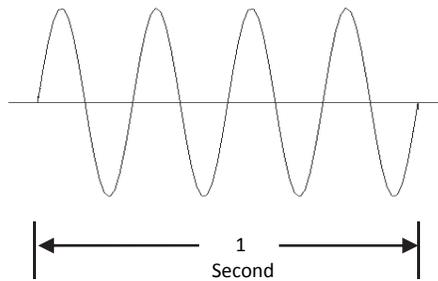

Figure 5
5. What is the frequency of waveform in Figure 5? \_\_\_\_\_